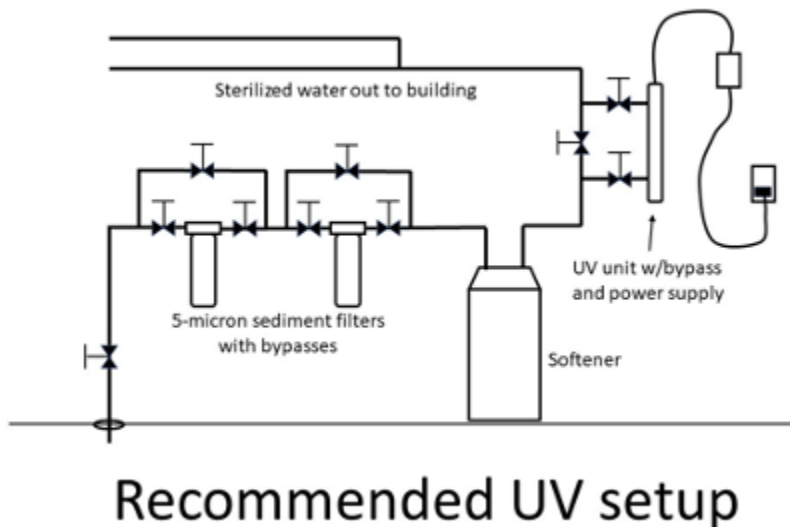

Figure 33. Recommended UV setup
- Figure 33. “Recommended UV setup” by Camosun College is licensed under a CC BY-NC-SA licence.